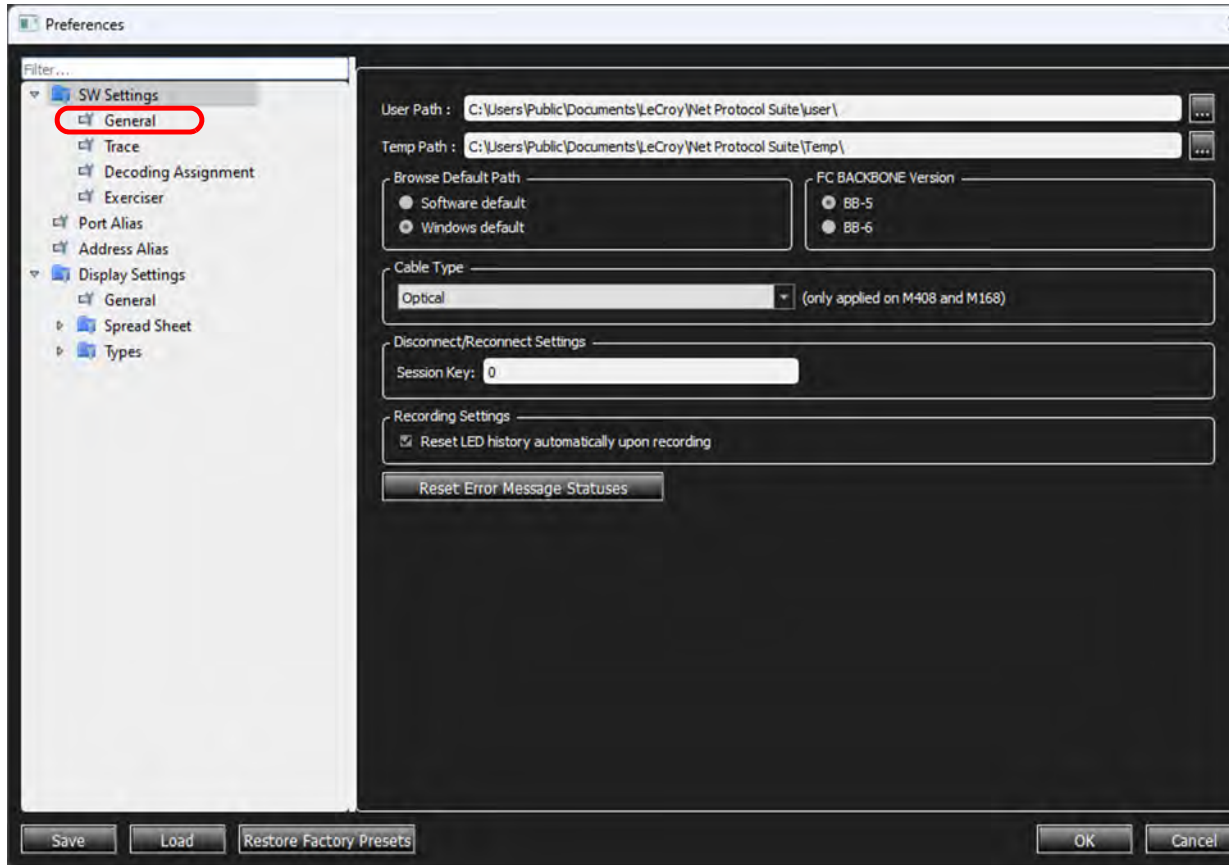

Figure 3.50: Software Settings General Options
- ❑ Select Cable Type from the drop-down list. See Figure 3.50.